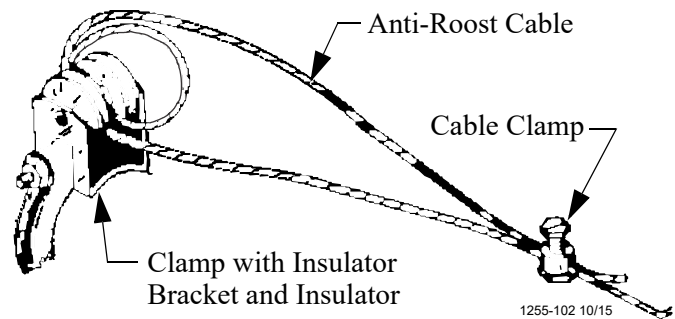

Figure 52. Anti-Roost Cable at the Hopper
2. Start at the hopper end of the line and form a loop around the anti-roost bracket. For best results, make a double loop around the anti-roost insulator in the center groove of the insulator and fasten with a 3/32" cable clamp as shown in **Figure 52**.